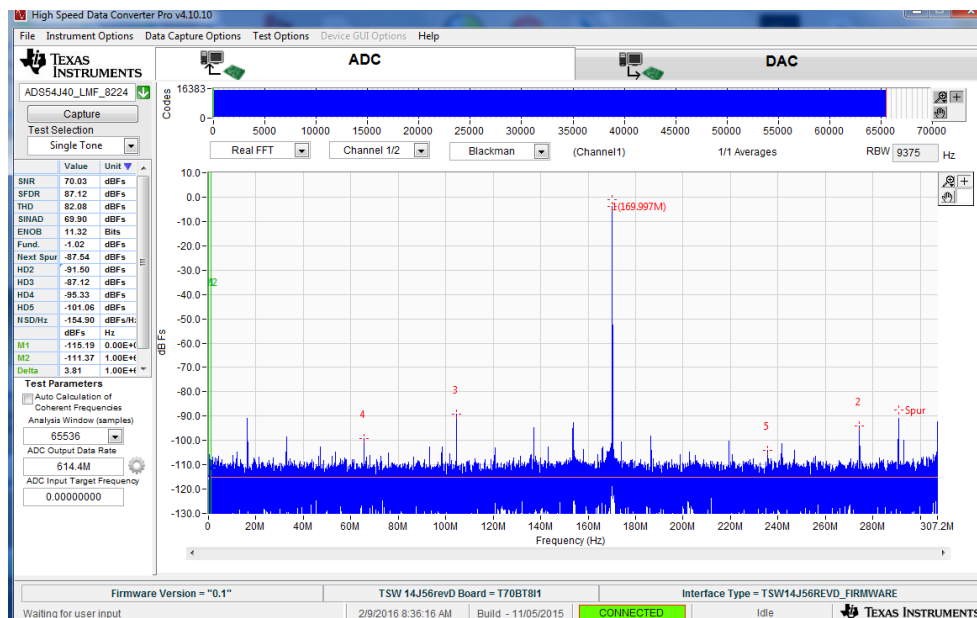

Figure 5. Channel 1 Data Capture Results from Quick Start Procedure
11. The results from the captured data of Channel 1 should look like Figure 5 and the performance should be similar to Table 1. If this result is not achieved, then see the Quick Start Troubleshooting section of this document.